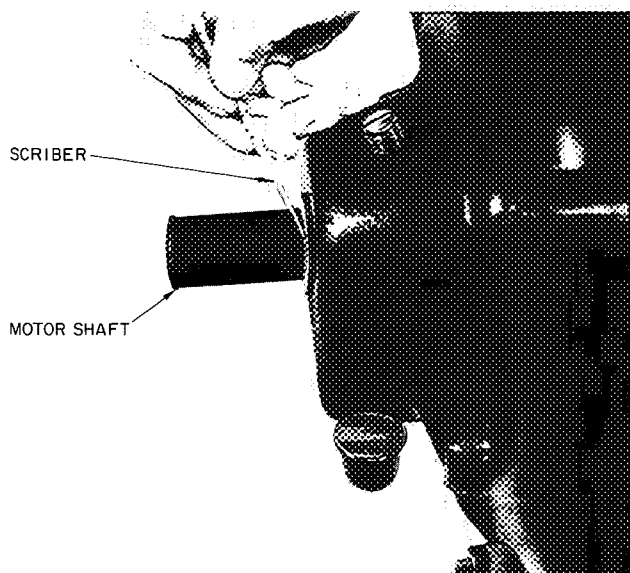

Fig. 65 — Scribing a Line to Indicate Running Position of Motor Shaft Running
2. Start the motor and scribe a light line around the motor shaft adjacent to the motor bearing housing. This line indicates the running position of the armature (Fig. 65). If the motor cannot be started, measure the amount of end play in the motor shaft. Set the motor shaft at half this measurement and mark the position. The coupling is to be aligned with the motor shaft in this running position.